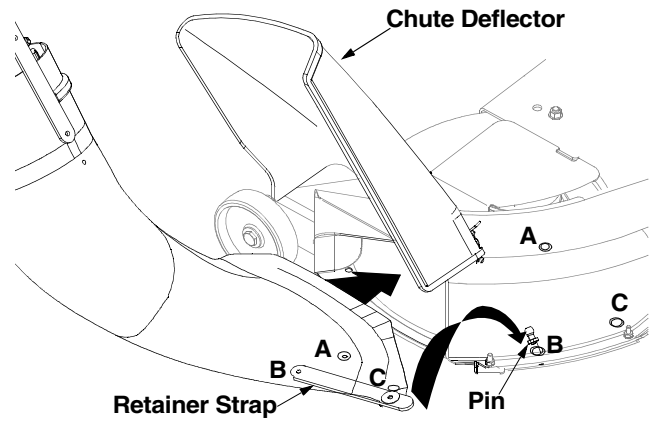

Figure 7
- Push down on the discharge chute so that its front bottom edge rolls over the bottom of the deck; then slide the chute forward to the stop on the deck. See Figure 7.
NOTE: The retainer strap is fitted at position B on the discharge chute. However, on older models of tractors, you may have to change the position of the strap depending on the location of the grasscatcher pin on the deck. Remove the retainer strap from position B on the discharge chute to position A or C corresponding to the position of the grasscatcher pin at A, B or C on the deck. See Figure 7.
- Lock the discharge chute in position by hooking the retainer strap over the grasscatcher pin on the deck. See Figure 7 for the pin position.